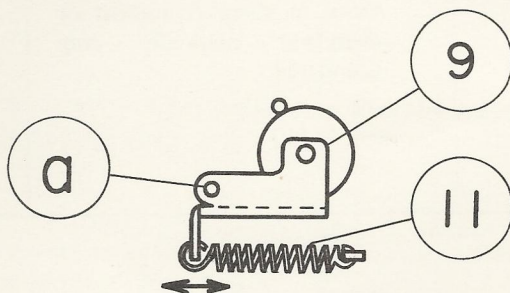

FIG. 5
1) Adjustment of pinch roller pressure (Refer figure 5)